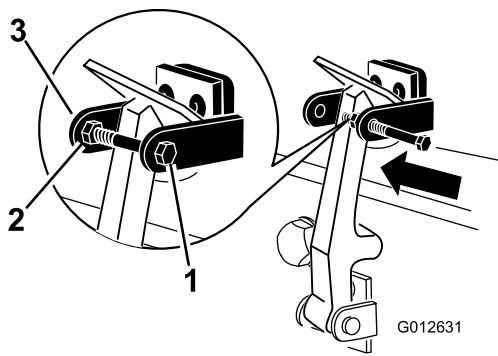

Figure 10
7. Screw the bolt into the other arm of hood-lock bracket to lock the latch in position (Figure 10).